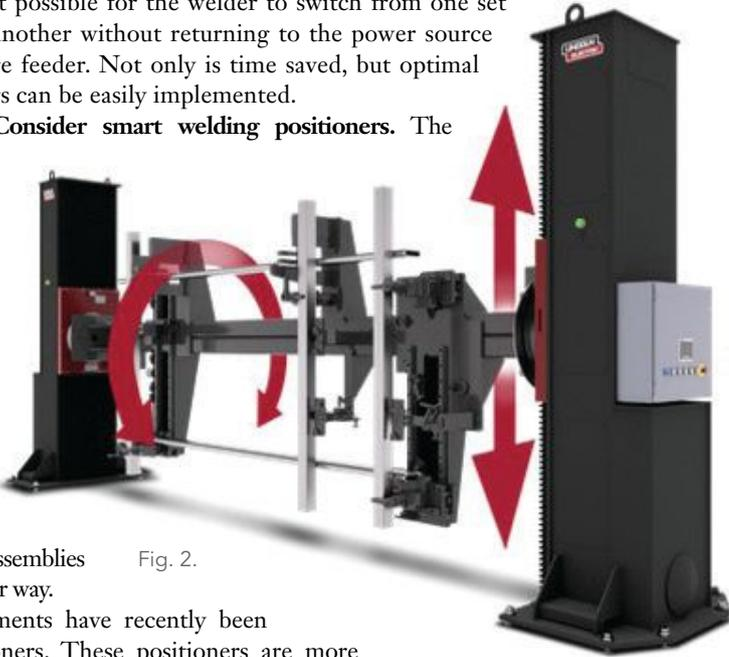

Fig. 2.
**Concept 15. Consider smart welding positioners.** The primary material-handling system in many fabrication shops consists of overhead cranes. It is not unusual to see multiple welders waiting for the crane to arrive to reposition their work. Welding positioners (see Figure 2) can be used to rotate subassemblies in a quicker and safer way.